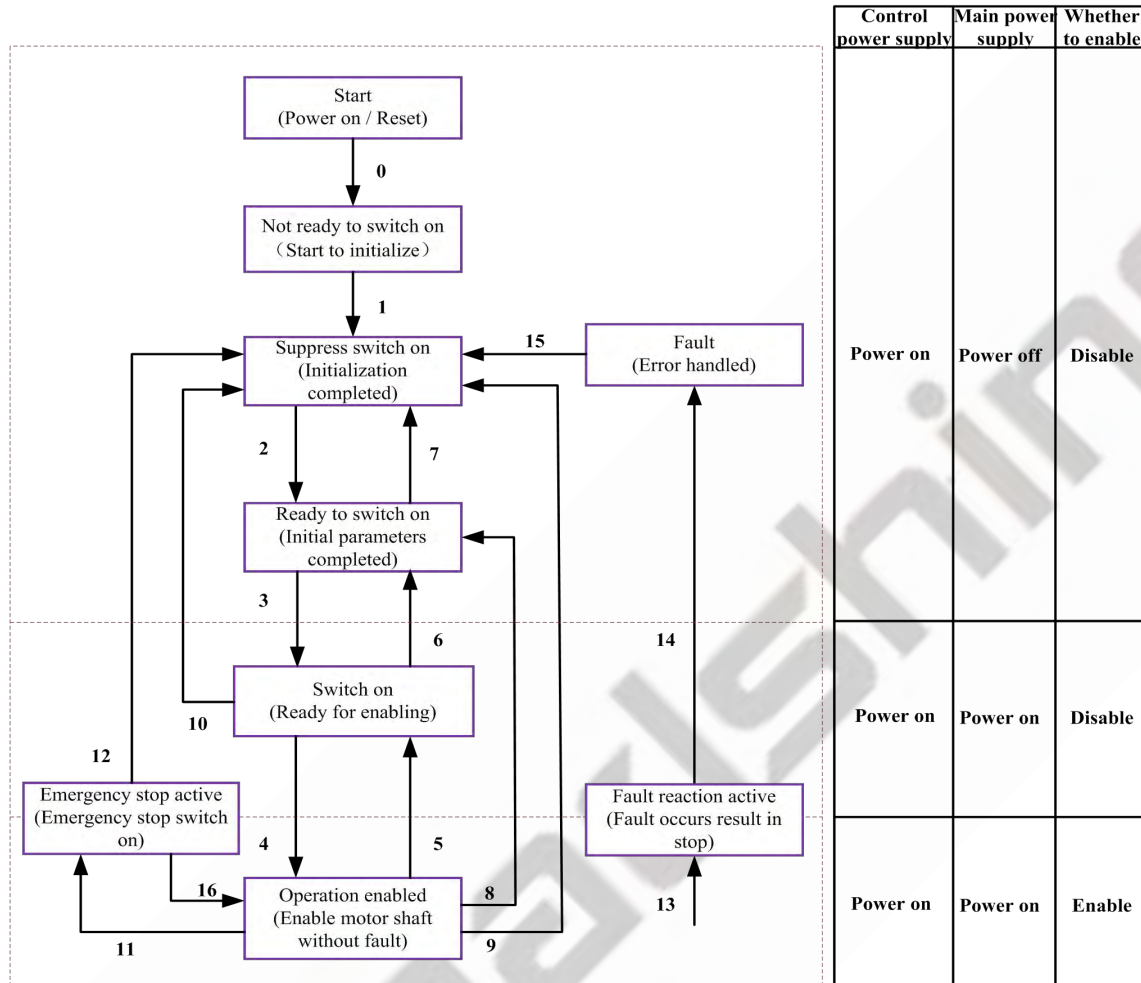

Figure 5.1 EM3E series 402 state machines
*3) Please refer to figure 5.1 for transition conditions.